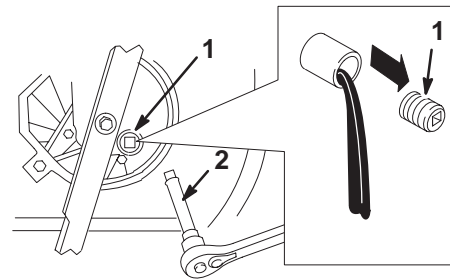

Figure 29
5. Remove the oil drain plug, return the lawn mower to its operating position, and allow the oil to drain into the drain pan (Fig 29).